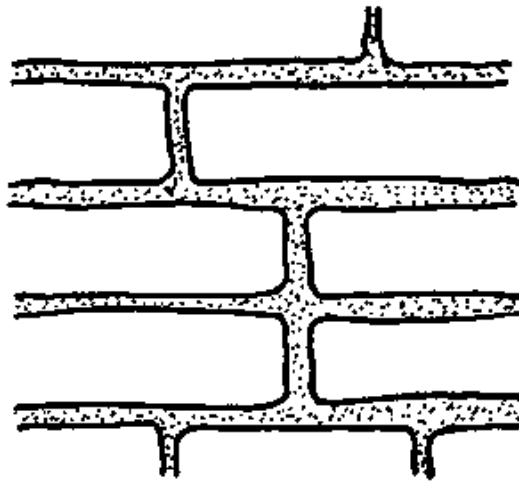

Fig. 3 WRONG!
- The stones should overlap each other as far as possible; avoid making any continuous cross joints between two courses (Fig. 3).